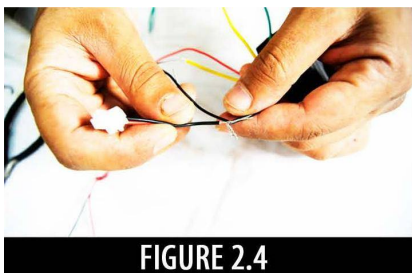

FIGURE 2.4
10. As shown in Figure 2.4 for the plastic connection that we had previously cut from the receiver, wrap one of the wires (it doesn't matter which one) of it to the negative (-) of the battery connector and the negative (-) of the receiver. That way, the negative (-) coming from the plastic connection is connected to both the battery connector and receiver as seen in Figure 2.5. Then with the other wire from the plastic connection, wrap it with either one of the yellow wires as shown in Figure 2.6 or with both. The benefit of using both yellow wires is two-fold. Firstly, it will give the circuit more voltage. Secondly, if one of the wires is defective, the other would suffice.